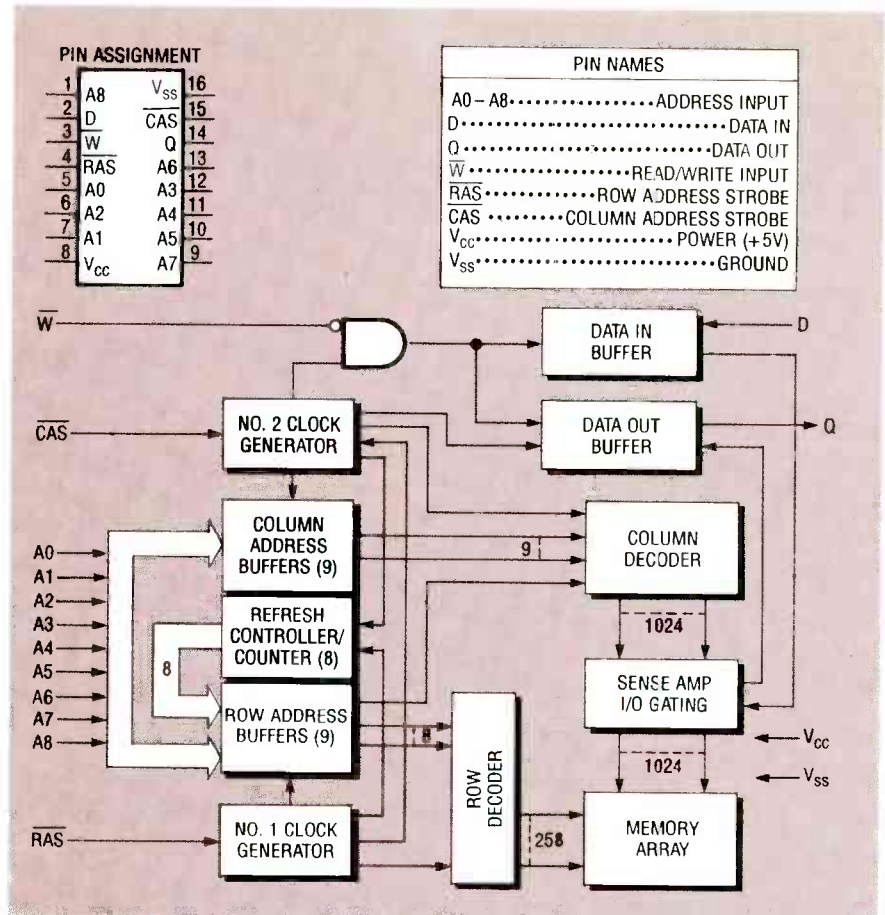
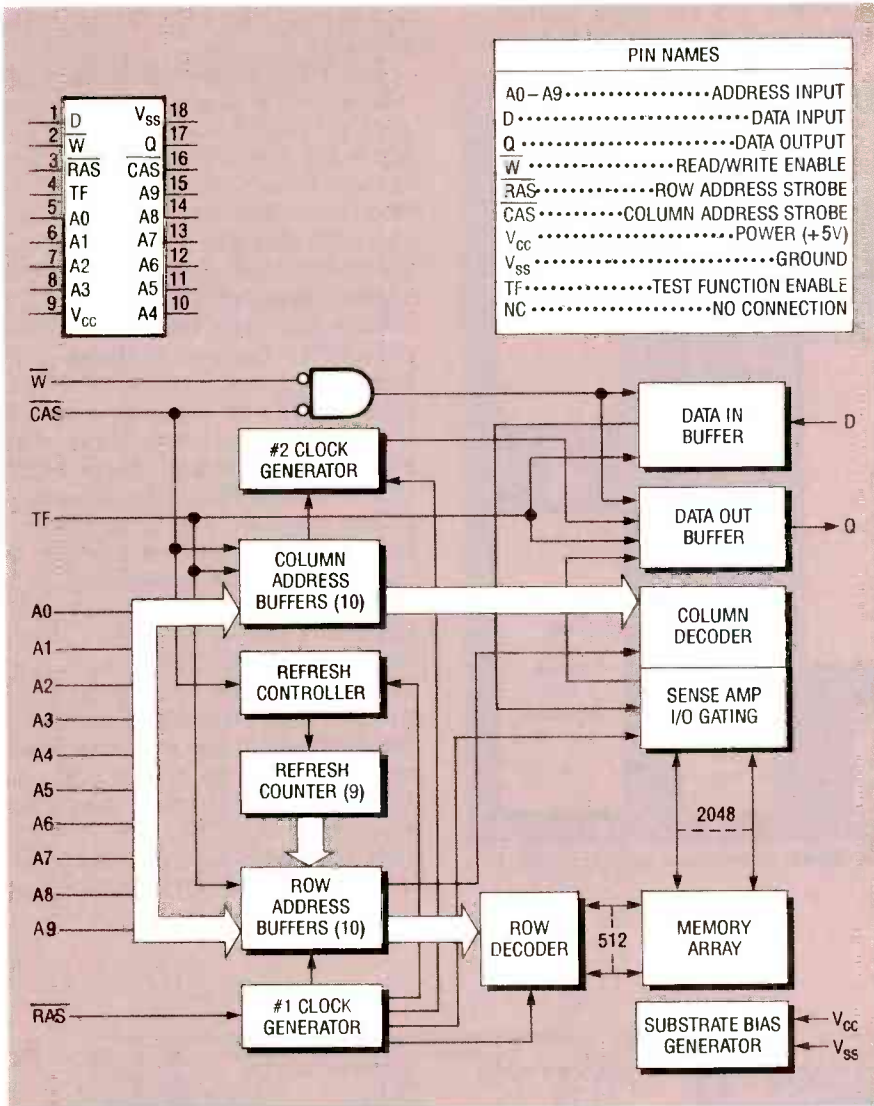

FIG. 1—256K DRAM PIN NAMES AND BLOCK DIAGRAM. DRAM's use multiplexed row and column address inputs; this 256K DRAM requires 9.
FIG. 2—1 MEG DRAM PIN NAMES AND BLOCK DIAGRAM. Address decoding and address latches are incorporated in the DRAM.
**Lamp Holders.** For indicators and projects. Figs. 1 and 2 accept E-10 threaded-base bulbs, available at Radio Shack.
DRAM's use multiplexed row and column address inputs; 64K DRAM's require only 7 address lines, 256K DRAM's require 9, and 1-MEG DRAM's require 10. Figure 1 shows a block diagram of a typical 256K × 1 DRAM, and Fig. 2 shows a typical 1-MEG DRAM. Address decoding and address latches are incorporated in the DRAM. To address the DRAM, row-address data is put on all address lines and clocked by the **RAS** (row address strobe) signal, then the column address data is put on the address lines and clocked by the **CAS** (column address strobe) signal. DRAM's have a **READ/WRITE** input pin, usually labeled  $\bar{w}$ , to control the type of operation; a **DATA IN** pin, **D**; and a **DATA OUT** pin, **Q**.